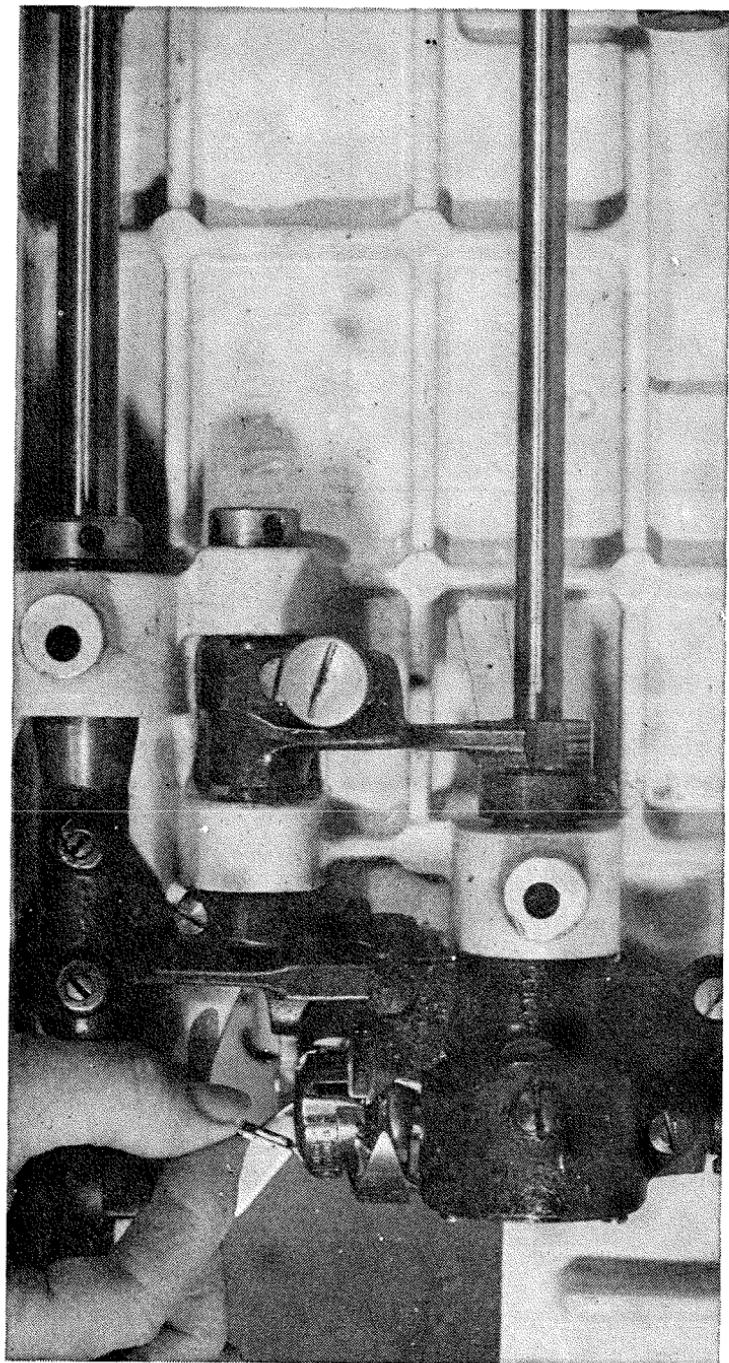

Fig. 1-8. The bobbin case and bobbin is being removed from the Singer 319W.
- If the throat plate is of solid construction, or does not slide, you can assume that access to the bobbin and shuttle must be gained underneath the bed of the machine. This is done either by swinging the head of the machine up and back or as done primarily on portables, by opening access doors at either the front, or the left end, of the machine. Since the bobbins in this type of mechanism are installed vertically, with their rotating axes parallel to the bed of the machine, they must first be installed in the bobbin case and then in the machine, with the hole of the bobbin over a centrally-located stud. The bobbin holder will be equipped with a latch, which serves the purpose of retaining the bobbin case and bobbin in the shuttle (Fig. 1-8). To remove the bobbin case and bobbin, spring the latch outward and pull the bobbin case out of the mechanism. To determine whether this machine has the oscillating or rotating shuttle (it will not have the vibrating shuttle), go through the procedures 2 and 3 just described, being sure to remove the top thread and raise the presser foot before rotating the balance wheel. To re-install the bobbin case and bobbin, be sure the needle is again at its highest point. Then with the bobbin in the case, and the thread threaded through the bobbin tensioner, place the entire assembly over the central stud and rotate it slightly to left or right while pushing. It will snap into place with an audible click. When the bobbin case is firmly in place, you should not be able to remove it without springing the latch outward.